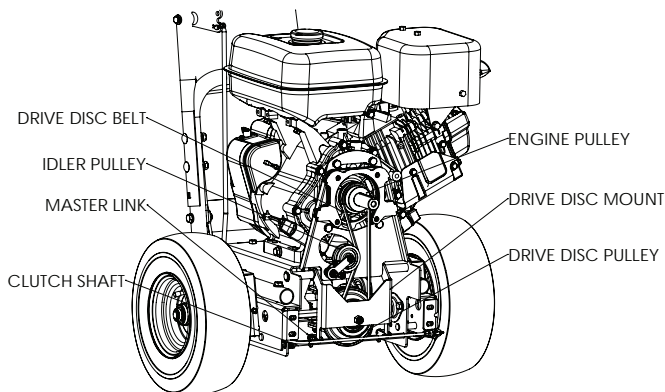

Figure 1
7. Route the new belt around the drive disk pulley, engine pulley and the idler pulley as shown. (Figure 1)